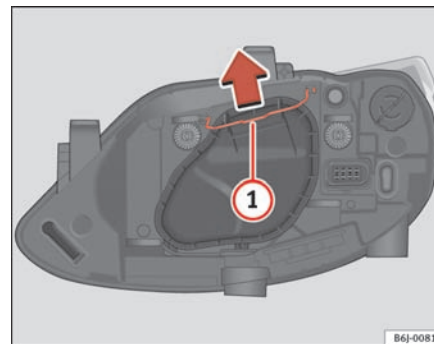

Fig. 138 Dipped beam / main beam, single light
- Remove the loop ⇒ page 220, fig. 138 ① in the direction of the arrow and remove the cover.
- Move the loop ⇒ page 220, fig. 138 ① in the direction of the arrow and remove the cover.